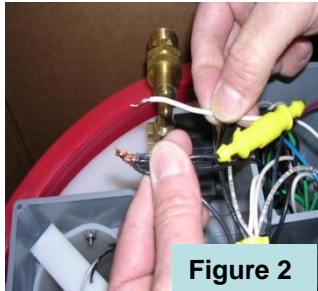

Figure 2
- Loosen this wire nut and disconnect white float wire (see figure 2)